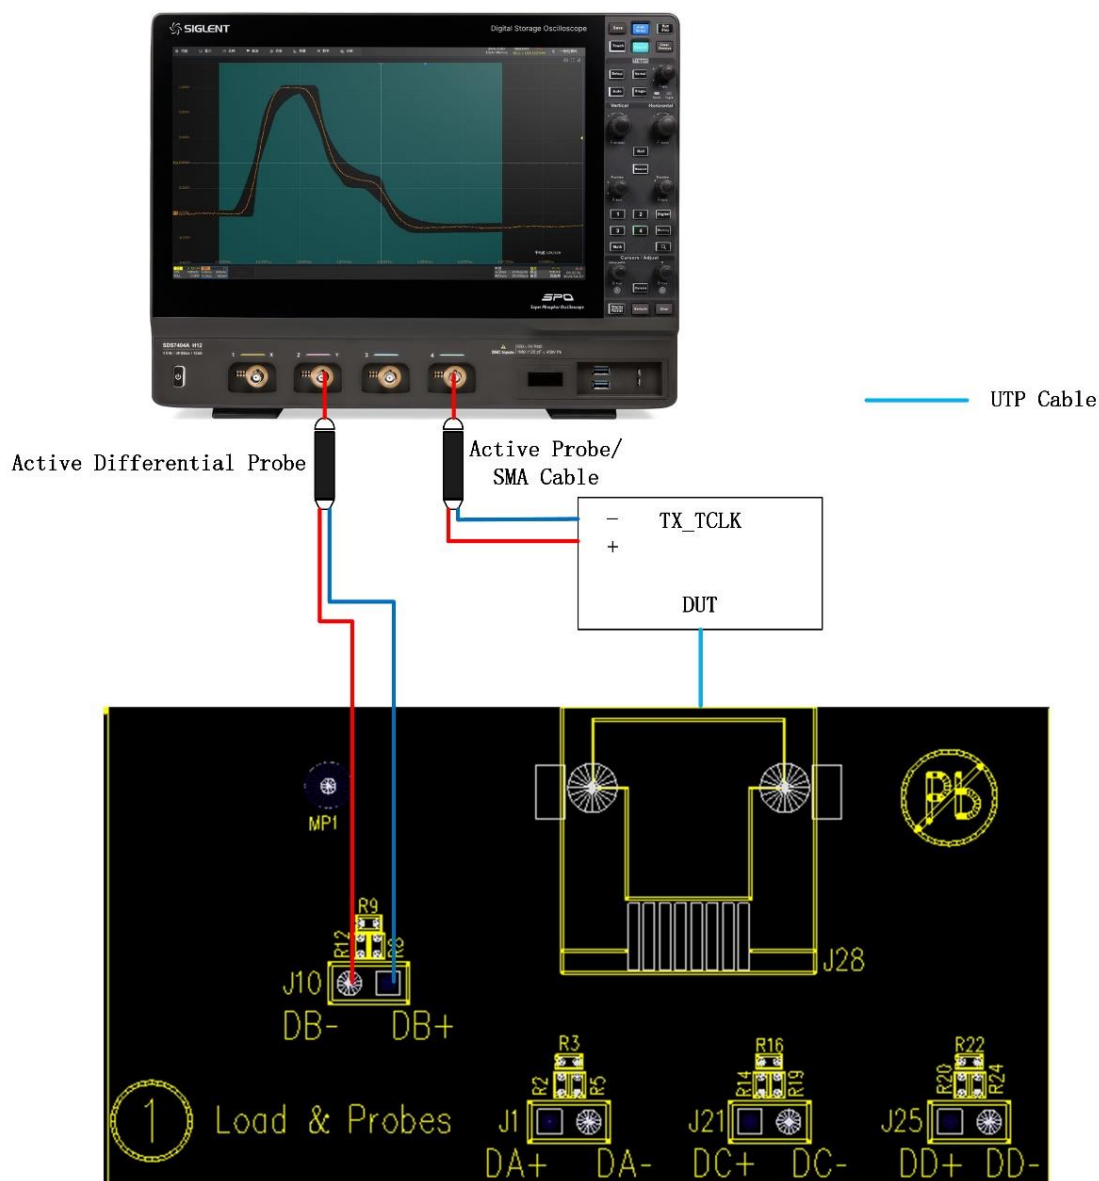

Figure 10-2 Connection of Section ① on test fixture for Master Mode JTXOUT test
The connection with section ① on the test fixture which supports a differential active probe to probe the MDI signal, which is shown as Figure 10-2, the test step is as follows:
- (1) Use a short UTP cable to connect the DUT to J28 connector on section ① of the test fixture.
- (2) Use an active differential probe to probe test point (J1, J10, J21, J25) on section ① of the test fixture according to the signal pair being tested { (DA+, DA-), (DB+, DB-), (DC+,DC-), (DD+,DD-)}.